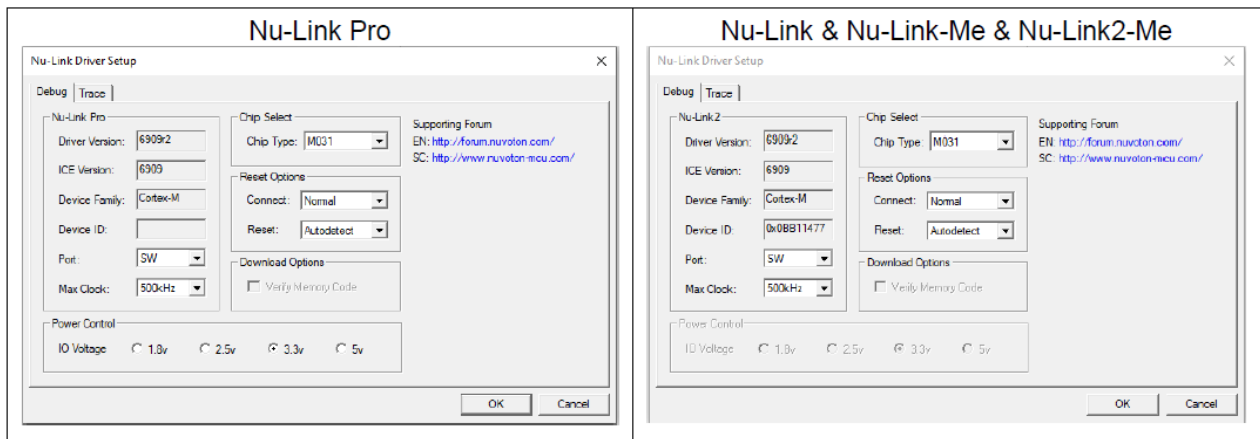

Figure 4-11 Nu-Link Adapter Parameter Settings
Step 5: Click the Settings button to open the Debug form, as shown in Figure 4-11. Refer to Table 4-1 for each setting description. The setting options shown in the Debug form may vary depending on the type of the Nu-Link Adapter used.